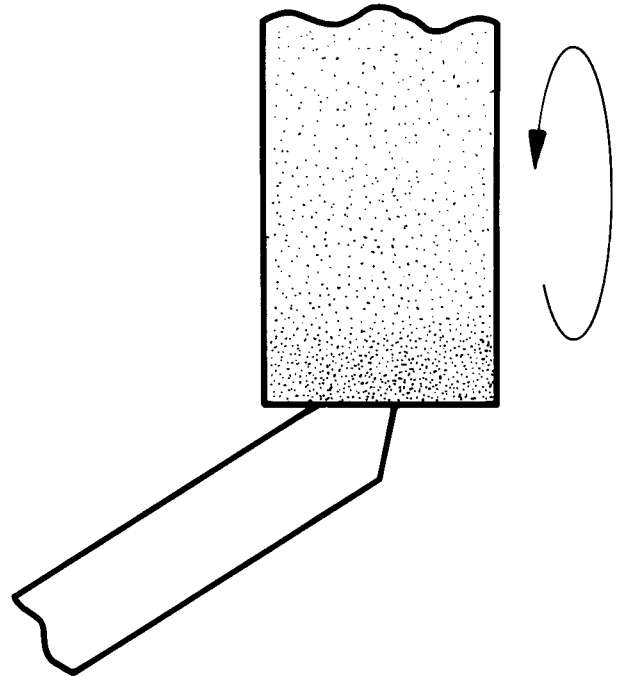

FIGURE 9.52 Grinding the side-cutting edge and side relief angles.
5. Grind the side relief and side-cutting edge angles. Tilt the bottom of the side inward approximately 6° for the relief angle and to the right 15° for the side-cutting edge angle (Fig. 9.52). When ground, these two angles form the cutting edge. The cutting edge should be the same length as the size of the toolbit; that is, a $3/8$ -in. square toolbit has a $3/8$ -in. cutting edge.